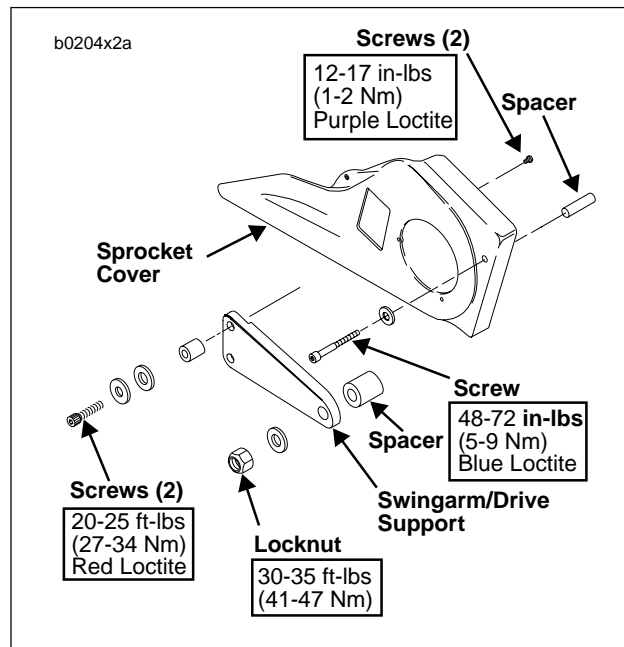

Figure 2-113. Sprocket Cover
2. See Figure 2-113. Remove nut and washer.
1. See Figure 2-113. If removed, attach sprocket cover to swingarm/drive support.